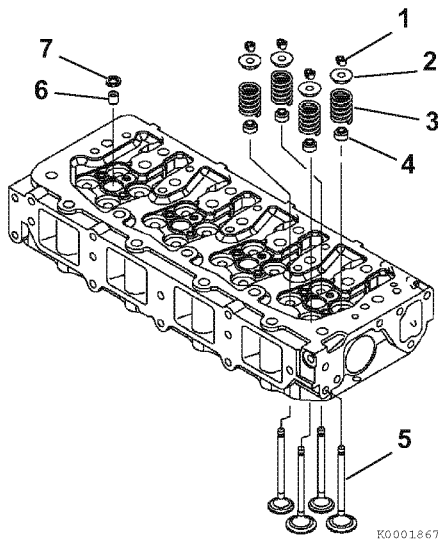

Figure 6-49
3. Remove the valve keepers (Figure 6-49, (1)).
5. Remove the spring retainer (Figure 6-49, (2)), valve spring (Figure 6-49, (3)),
7. Remove the injector nozzle protectors (Figure 6-49, (6)) and the seats (Figure 6-49, (7)).
8. Turn the cylinder head so the exhaust port side faces down. Remove the intake and exhaust valves (Figure 6-49, (5)) from the cylinder head.
9. Remove the valve stem seals (Figure 6-49, (4)).